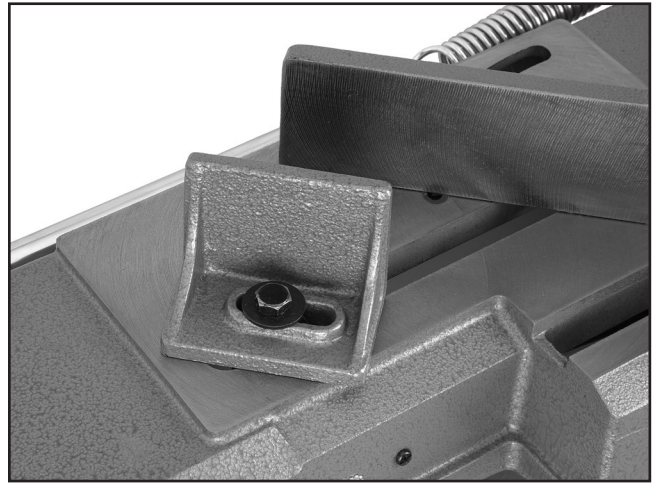

Figure 32. Vise jaw lock-nut.
4. Loosen the lock nut in **Figure 32** on the opposite jaw so the jaw can float, and match the angle of the workpiece.